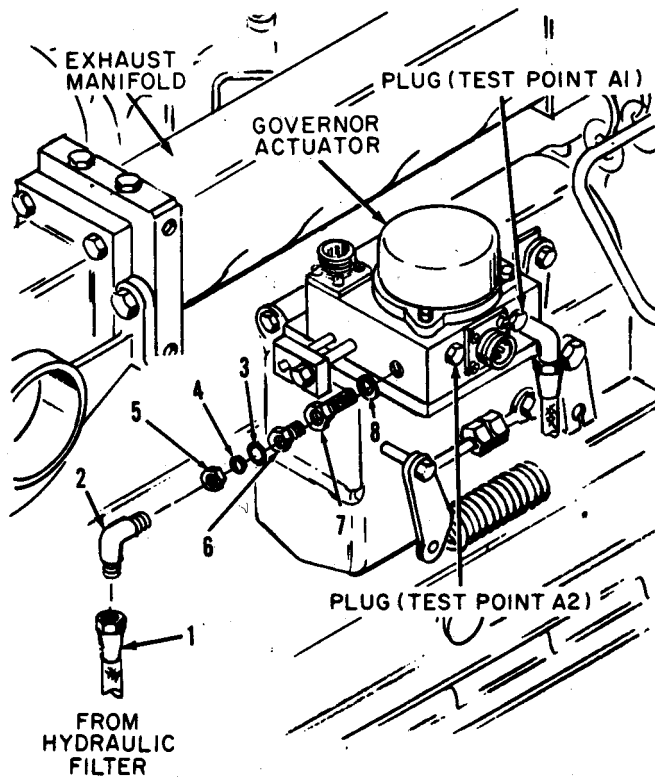

Figure 3-48. Precise governor actuator filter servicing and test points (precise generator sets)
b. REMOVAL. Remove governor actuator filter in sequence illustrated in figure 3-48, observing the following:
1. Install suitable plug in supply hose (17) and opening in governor actuator when filter (7) is removed.
b. BLEEDING PROCEDURE. Refer to figure 3-48 and bleed hydraulic system at governor actuator as follows:
Legend to figure 3-48:
d. INSTALLATION. Install governor actuator filter in reverse sequence illustrated in figure 3-48, observing the following: